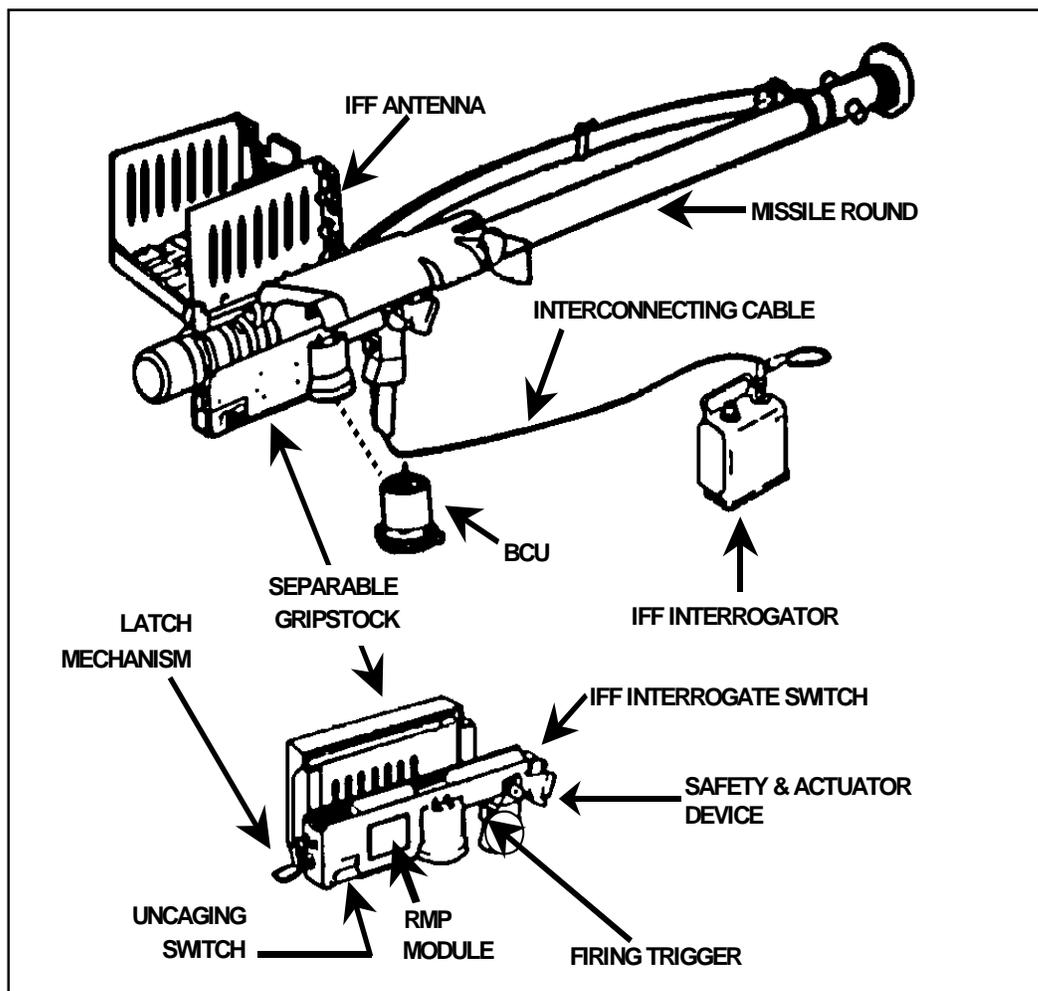

Figure 3-1. Stinger Weapon Round
3-3. The Stinger Man Portable Air Defense System (MANPADS) is a shoulder-fired, self-contained, close-in air defense weapon used by the United States and many foreign countries. Stinger is an infrared (IR) or infrared/negative ultraviolet (IR/NUV) seeking, fire-and-forget weapon, allowing the gunner to engage another target or take cover immediately after launch (figure 3-1, page 3-2). The system is self-contained, including its own electrical power, argon coolant, and IFF system. There are three versions of the missile: Basic, POST (Passive Optical Seeker Technique), and RMP (Reprogrammable Microprocessor). Basic Stinger has limited countermeasure capabilities, Stinger-POST has improved countermeasure capabilities, and Stinger-RMP has further refinements to its countermeasure capabilities. The RMP version has the ability to be reprogrammed to meet an ever-changing threat without hardware redesign or replacement. The RMP missile uses a two color, infrared and ultraviolet, detector and advanced algorithms to help acquire targets. This advanced capability allows the missile to effectively discriminate between targets, flares, and background clutter thereby preventing false engagements. Unlike the basic Stinger missile, the RMP has the capability to track and destroy high-performance, fixed-wing aircraft, unmanned aerial vehicles, and cruise missiles in clutter and at tactical ranges.
3-10. **Gripstock Assembly.** The gripstock is attached to and removed from a launch tube by means of a latch (figure 3-1, page 3-2). Located on the gripstock assembly are the safety and actuator device, uncaging switch, firing trigger, IFF antenna assembly, IFF INTERROGATE switch, IFF interrogator connector, and Battery Coolant Unit (BCU) receptacle. After a missile is launched, the separable gripstock is removed from the launch tube for reuse. It can be reused until failure.